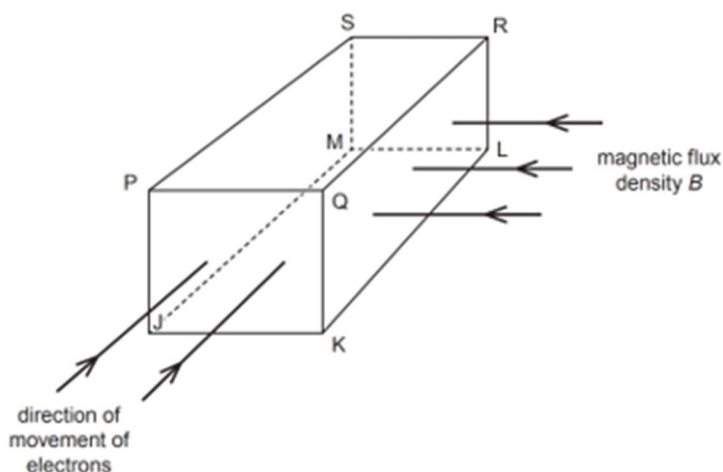

Fig. 6.1
- (a) A slice of a conducting material has its face QRLK normal to a uniform magnetic field of flux density B , as illustrated in Fig. 6.1.
1. identify the faces, using the letters on Fig. 6.1, between which a potential difference is developed. State its polarity.